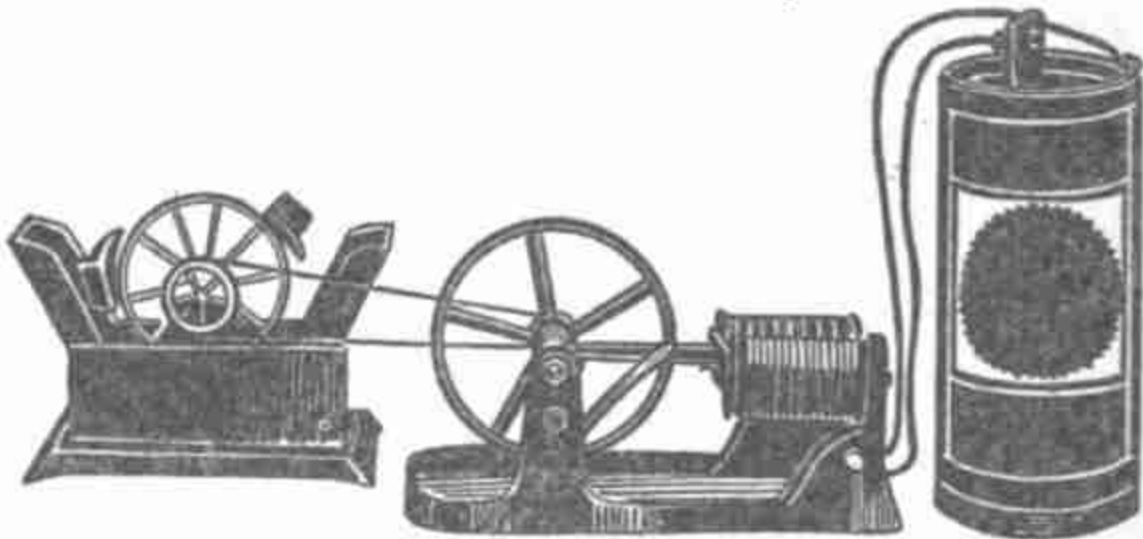
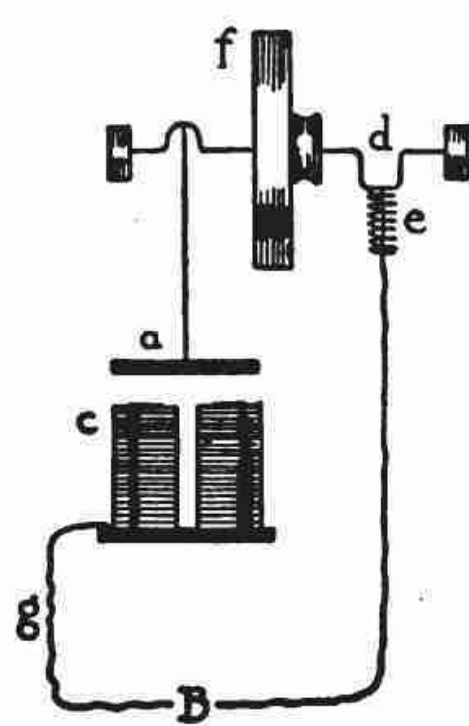

Fig. 27
Fig. 28
9. *The Electric Engine* (Fig. 27).—This toy, with one dry battery cell, develops power enough to run several other toy machines. The diagram in Fig. 28 will make its plan of operation plain. *B* is the battery cell, *c* the electro-magnet, *a* an armature of iron. By a rod this armature is connected with a crank on the axle which carries the fly wheel *f*. Another crank, *d*, upon the same axle serves like a push button to close the electric circuit at the right instant. The wire *g* from the battery cell encircles the electro-magnet *c* and then is connected to the iron base of the toy. When the crank *d* touches the conductor *e*, which is a spring, the electric current passes around the magnet, the magnet pulls the iron armature *a*, and this gives an impulse to the wheel *f* whose momentum carries it around during that portion of the revolution when *d* is separated from *e* and *a* is receding from the magnet.